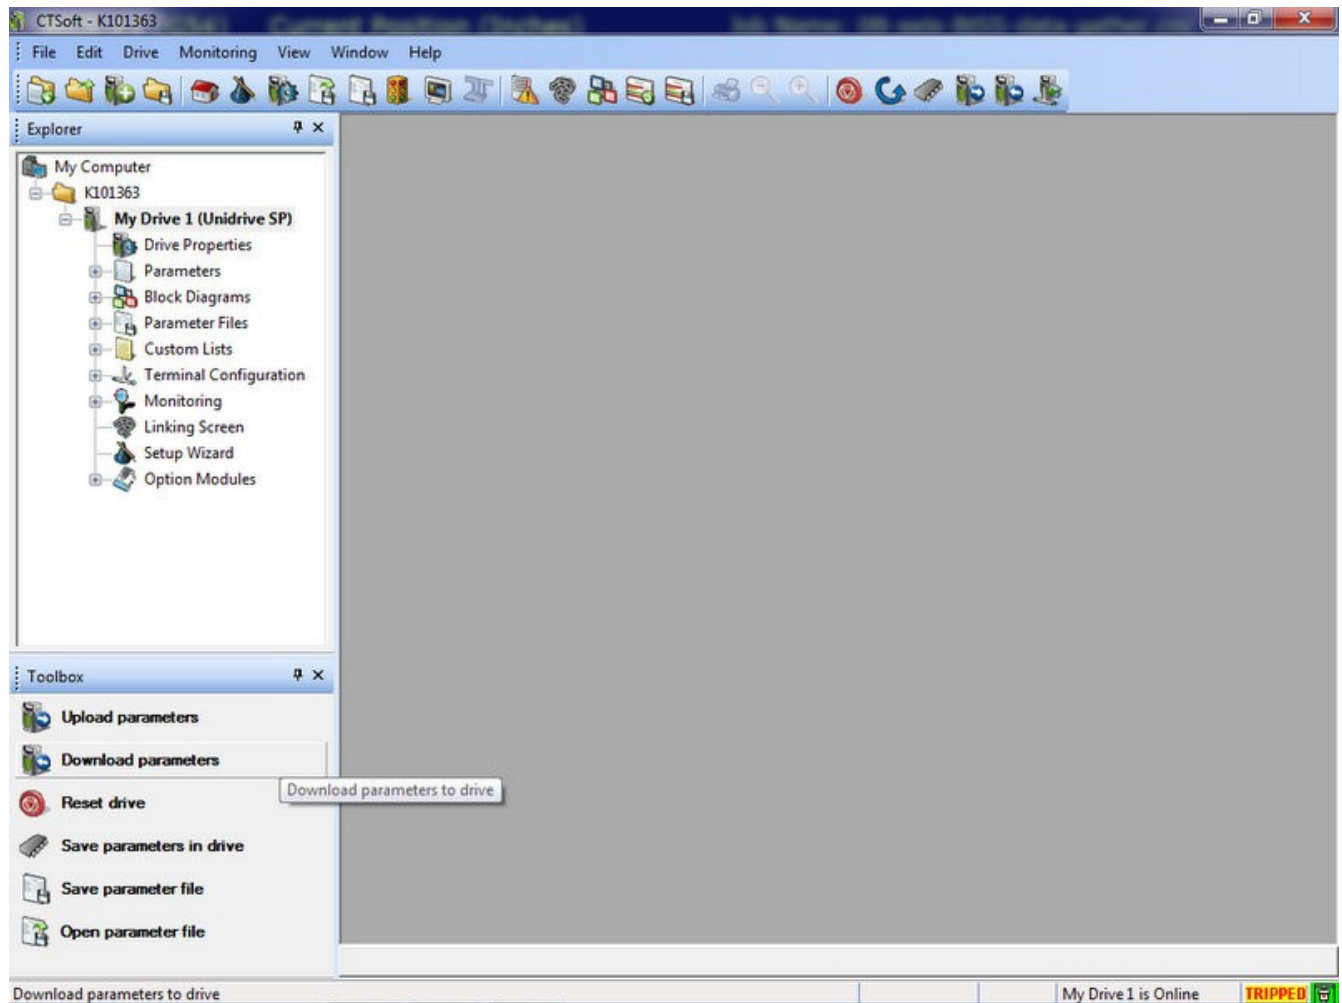

Figure 11
9. Verify that the bottom right hand corner has changed from red to green and shows **My Drive 1 is Online** as shown in Figure 11. It will also show **TRIPPED**.